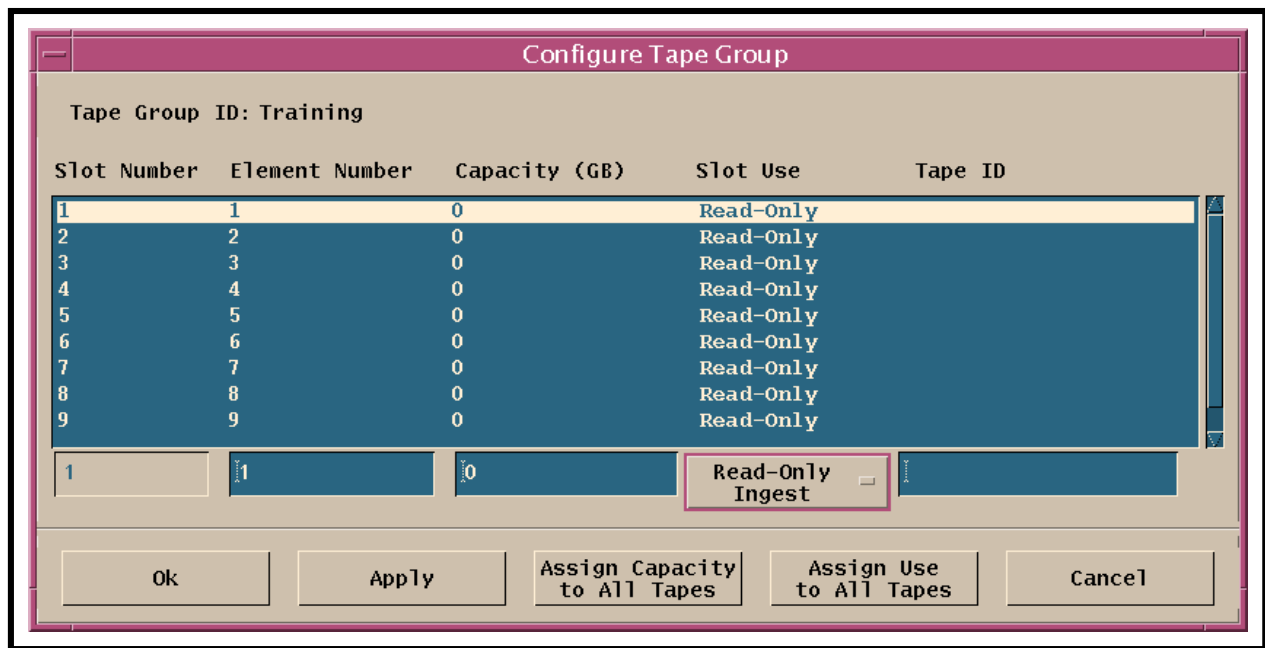

Figure 22. Configure Tape Group Window (Storage Management Control GUI)
- The **Configure Tape Group** window (Figure 22) is displayed.
- Capacity (GB)